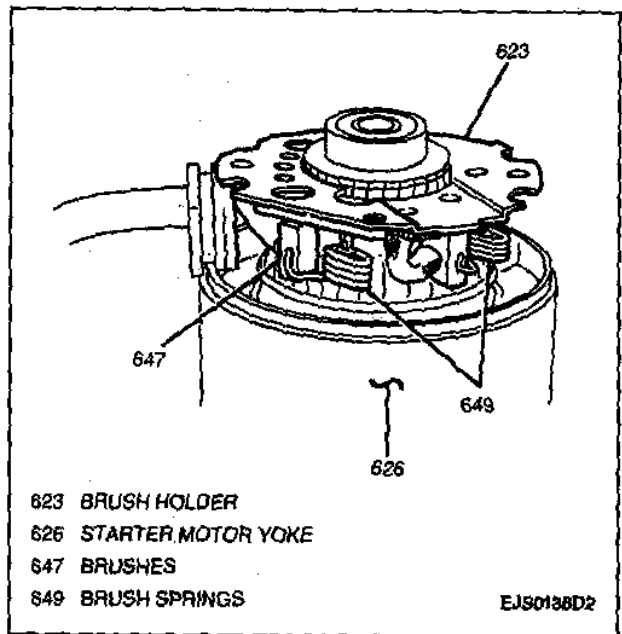

Figure 13—Removing Brush holder and Brushes
3. Brush holder and brushes from commutator end of armature (Figure 13).